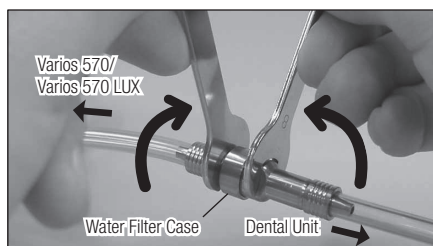

Fig.19
- 2) Mount two Spanner Wrenches (5x8) and turn those as shown in Fig.19.